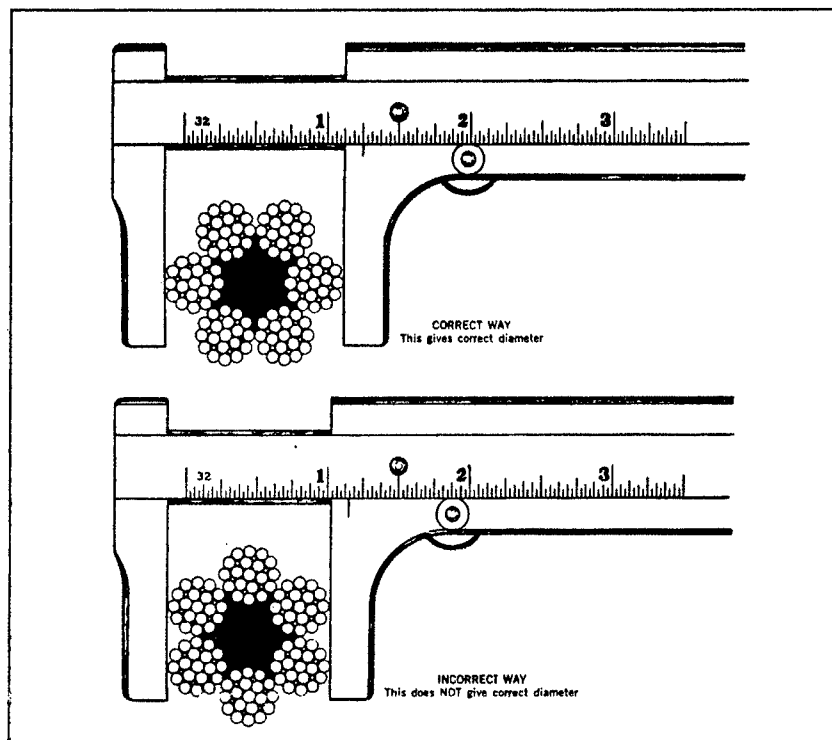

Fig. 2-8 Measuring wire rope diameter
10. **Diameter.** The diameter of a wire rope is the distance between the crowns of two opposite strands (See **Figure 2-8**). This is easily measured by rotating a caliper around the rope so the highest points are measured. Ropes are referred to by their nominal diameter. American made wire rope will be delivered about 5 percent oversized.